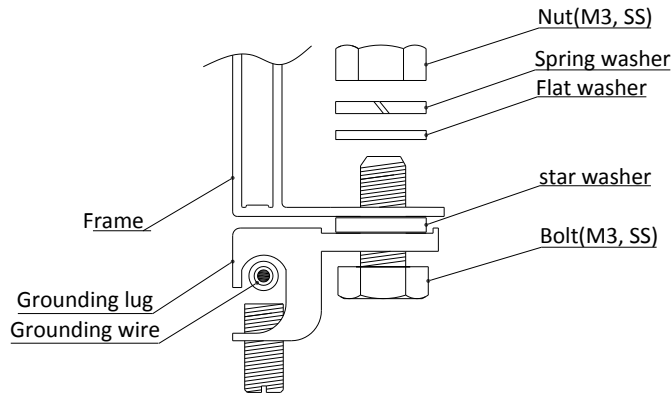

Figure 8
- Striping the grounding wire to proper length, do not hurt the metal core during; insert it into the lug, fastening the screw then. Follow figure8 use bolt to connect lug to the frame. Recommended M3 screw assembly is 2.3 N • m.